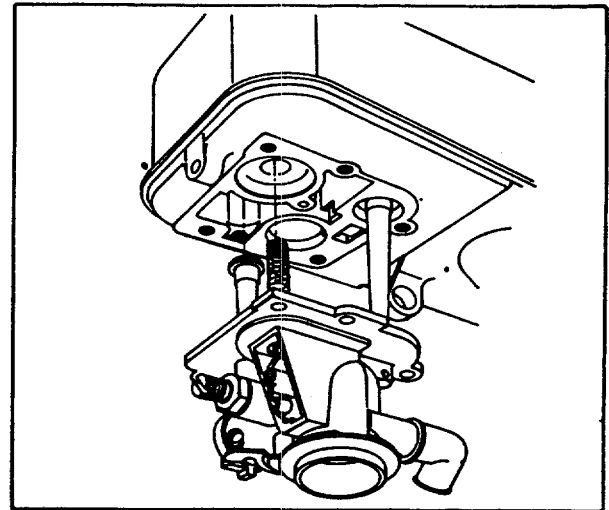

Fig. 14. - Assembly Tank to Carburetor
Lower tank down onto carburetor, while guiding choke spring into spring well, Fig. 14. Holding carburetor and body together, turn assembly right side up. Thread carburetor mounting screws into tank top about two (2) turns. DO NOT TIGHTEN.